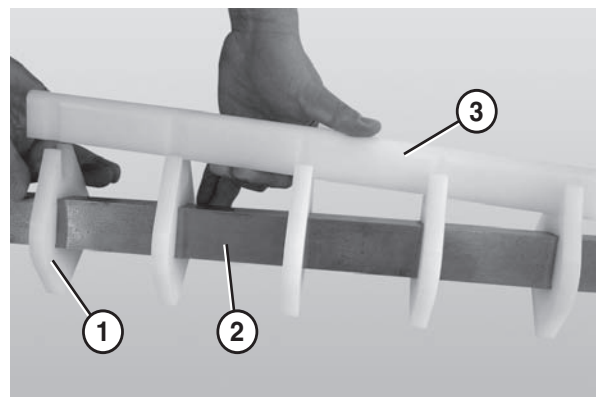

Figure 80
- Slide the nose bar pucks (**Figure 80, item 1**) onto the nose bar drive post (**Figure 80, item 2**).
- Attach the nose bar wear strip (**Figure 80, item 3**).